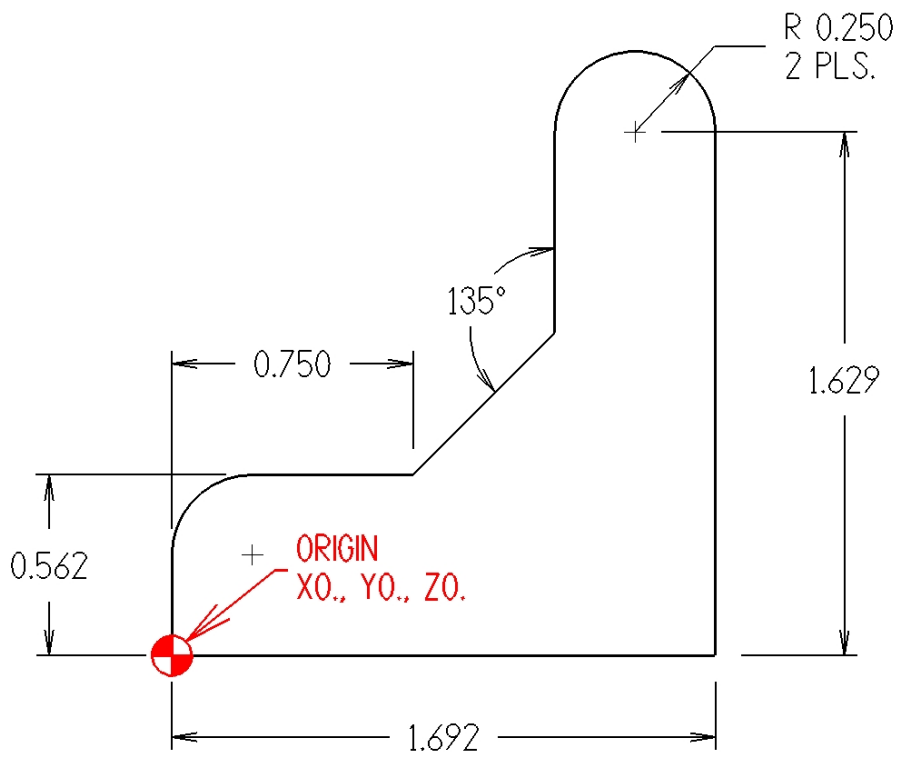

Figure 8, origin placement on the drawing
1. Determine where is the best place on the shape for the part origin. This will be where all points along the drawing are calculated from. See **figure 8** for the origin location that will be used.